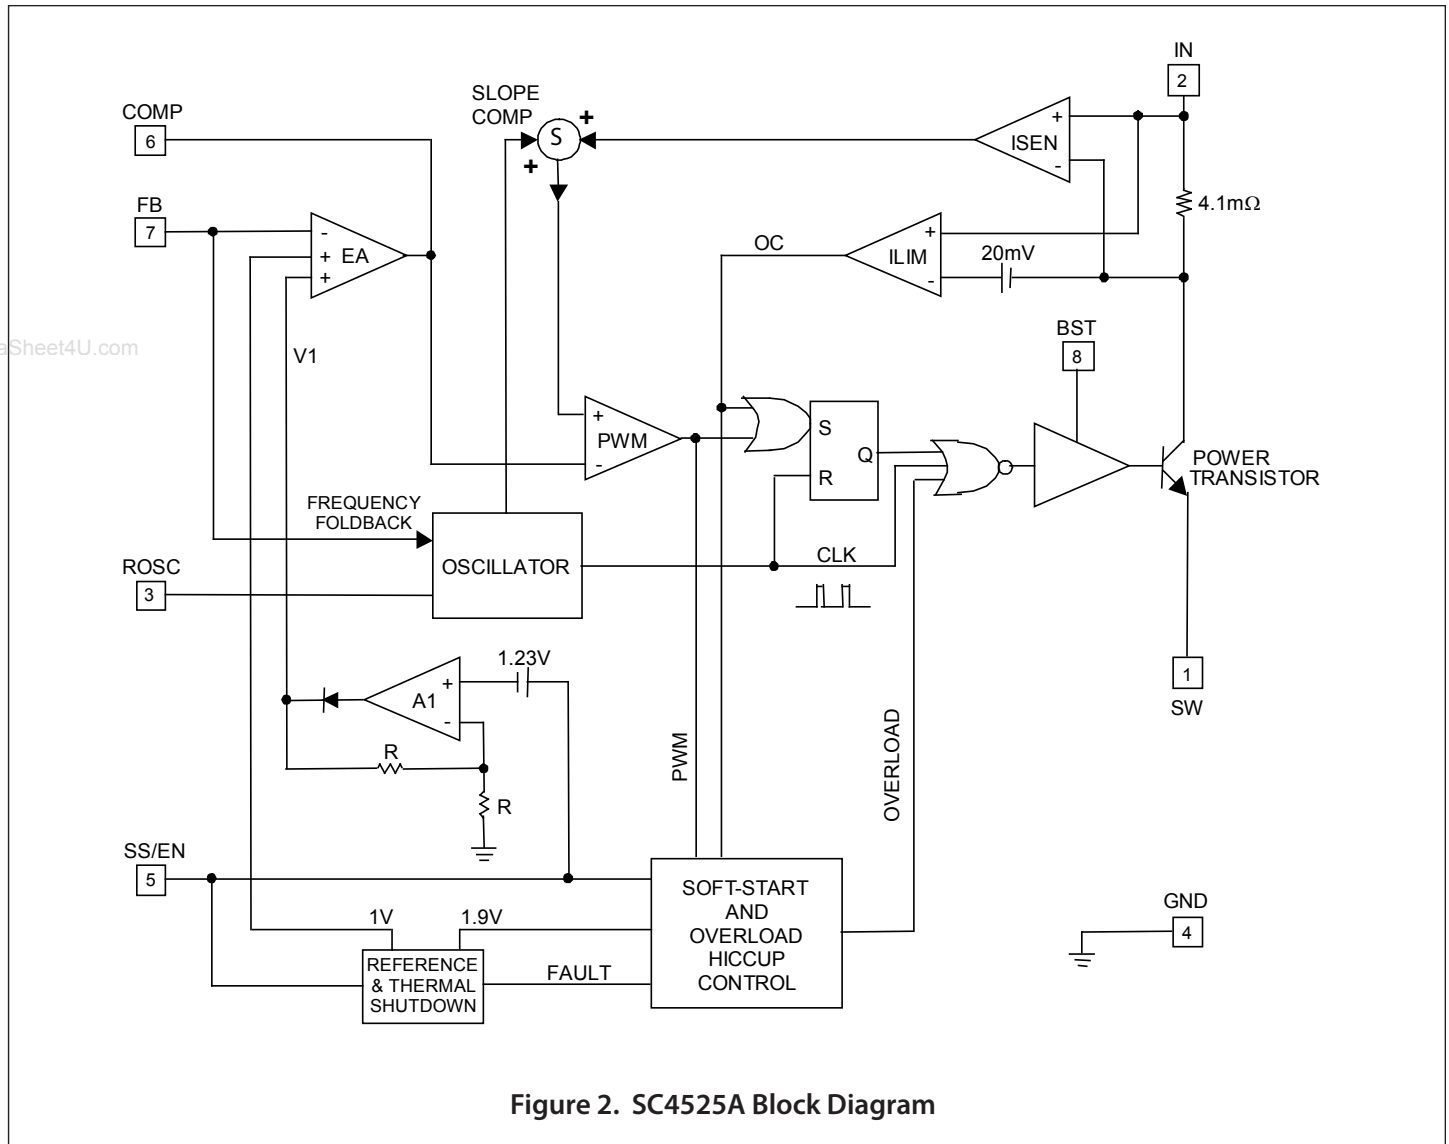

Figure 2. SC4525A Block Diagram
As shown in Figure 2, the switch collector current is sensed with an integrated 4.1mΩ sense resistor. The sensed current is summed with a slope-compensating ramp before it is compared with the transconductance error amplifier (EA) output. The PWM comparator trip point determines the switch turn-on pulse width. The current-limit comparator ILIM turns off the power switch when the sensed signal exceeds the 20mV current-limit threshold.
The error amplifier EA in Figure 2 has two non-inverting inputs. The non-inverting input with the lower voltage predominates. One of the non-inverting inputs is biased to a precision 1V reference and the other non-inverting input is tied to the output of the amplifier A₁. Amplifier A₁ produces an output V₁ = 2(V_{SS/EN} - 1.23V). V₁ is zero and COMP is forced low when V_{SS/EN} is below 1.23V. During start up, the effective non-inverting input of EA stays at zero until the soft-start capacitor is charged above 1.23V. Once V_{SS/EN} exceeds 1.23V, COMP is released. The regulator starts to switch when V_{COMP} rises above 0.4V. If the soft-start interval is made sufficiently long, then the FB voltage (hence the output voltage) will track V₁ during start up. V_{SS/EN} must be at least 1.83V for the output to achieve regulation. Proper soft-start prevents output overshoot. Current drawn from the input supply is also well controlled.
As the load draws more current from the regulator, the current-limit comparator ILIM (Figure 2) will eventually limit the switch current on a cycle-by-cycle basis. The over-current signal OC goes high, setting the latch B₃. The soft-start capacitor is discharged with (I_D - I_C) (Figure 3). If the inductor current falls below the current limit and the PWM comparator instead turns off the switch, then latch B₃ will be reset and I_C will recharge the soft-start capacitor. If over-current condition persists or OC becomes asserted more often than PWM over a period of time, then the soft-start capacitor will be discharged below 1.9V. At this juncture, comparator B₄ sets the overload latch B₂. The soft-start capacitor will be continuously discharged with (I_D - I_C). The COMP pin is immediately pulled to ground. The switching regulator is shut off until the soft-start capacitor is discharged below 1.0V. At this moment, the overload latch is reset. The soft-start capacitor is recharged and the converter again undergoes soft-start. The regulator will go through soft-start, overload shutdown and restart until it is no longer overloaded.
The PWM latch in Figure 2 is reset every cycle by the clock. The clock also turns off the power transistor to refresh the bootstrap capacitor. This minimum off time limits the attainable duty cycle of the regulator at a given switching frequency. The measured minimum off time is 100ns typically. If the required duty cycle is higher than the attainable maximum, then the output voltage will not be able to reach its set value in continuous-conduction mode.